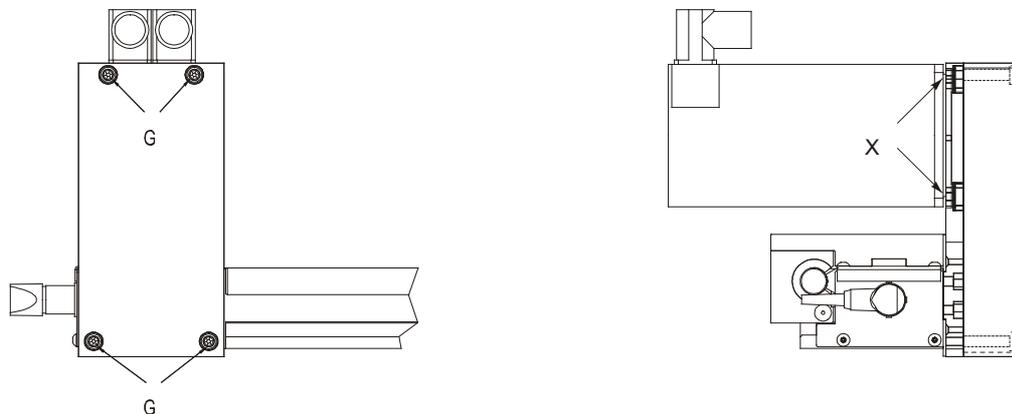

Figure 23: Linear unit and belt gear drive, version 2
- Remove the motor flange cover by loosening the attachment screws (**G**), see *Figure 23, bottom*).